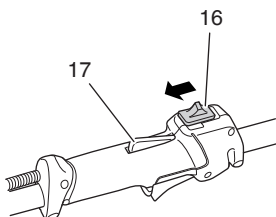

Fig. 13
1. Set ignition switch (16) to forward away from stop position. (Fig. 13)